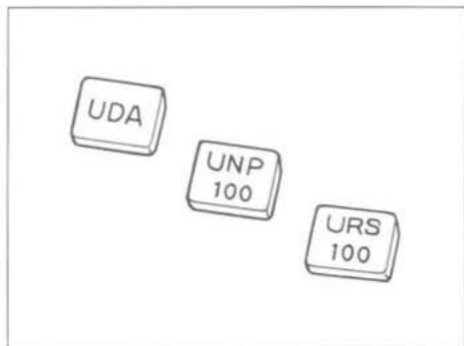

Fig. 6
(1) Remove the optical element index plate provided with each optical element from the case. (Fig. 6)